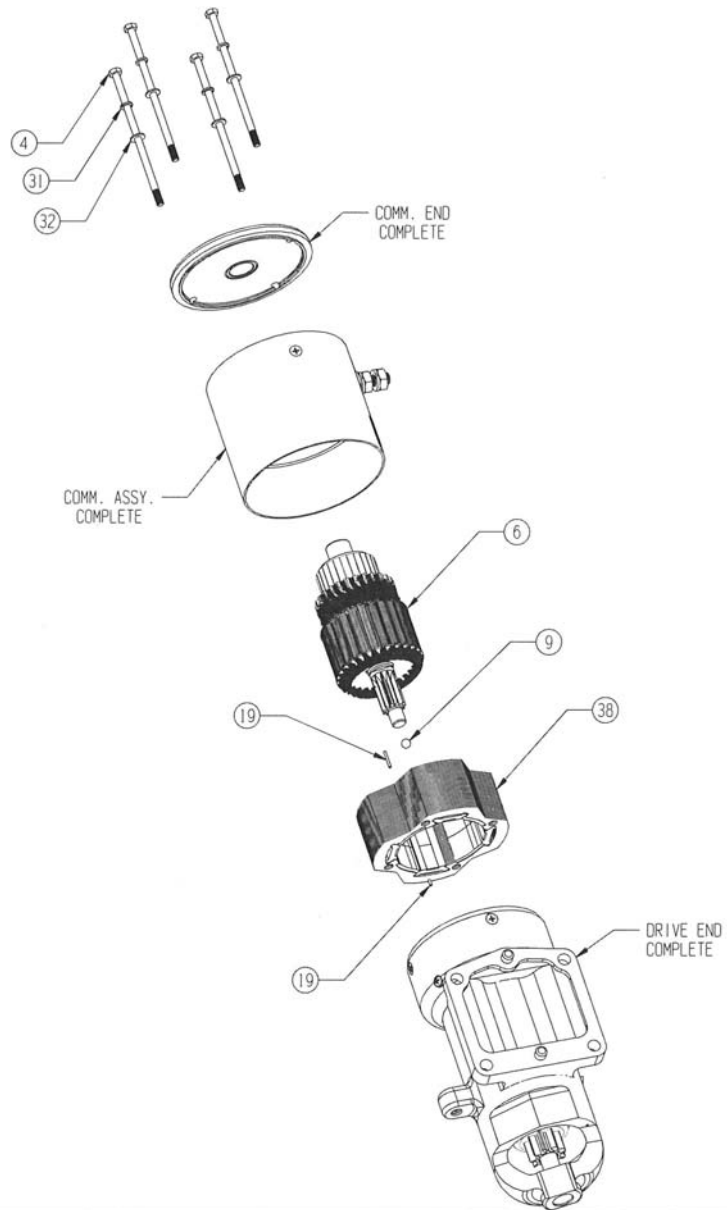

Fig 1: Starter, Exploded View
(see figure 1)
- 2) Remove comm. end assembly (comm. end complete) (see figure 1)
- 4) Remove item *comm. assy. Complete*. In most cases the comm. assy. will separate from the nose case with the Flux Ring assembly (#38) and armature assembly (#6). Remove armature (#6) from comm. Assy. by pushing Commutator end of the shaft with thumbs until it is free. (see figure 1)
- 5) Remove flux ring assembly (#38) from comm. assy. complete by pushing from the comm. end of the starter. It may be necessary to gently tap the flux ring from the brush end of the comm. assy. With a non metallic punch or a soft faced hammer to get it started. Pay attention not to damage or break the flux ring pins (#19). These pins are included in kit, if replacement is necessary. (see figure1)
- If starter has #8 Thru Bolts (fig1#4, 31, 32), OHK-0003 can be ordered to upgrade to current standard (#10 thru bolts). This will include hardware and Anchor Ring.